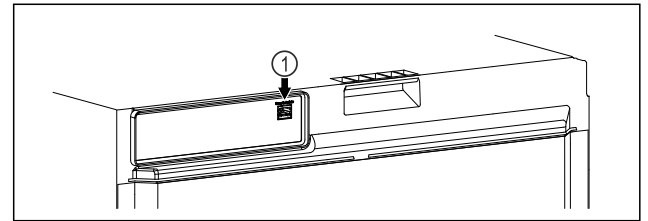

Fig. 104
- SmartModule Fig. 104 (1) has been inserted.